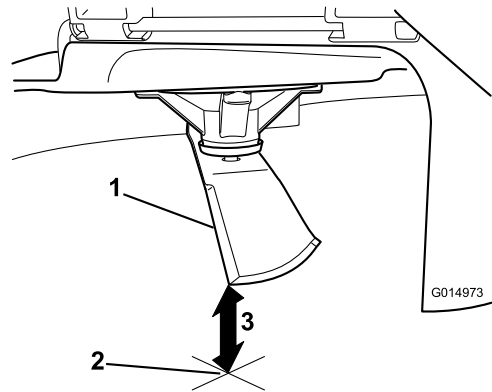

Figure 49
5. Measure from the tip of the front blade to the flat surface and the tip of the rear blade to the flat surface (Figure 49). If the front blade tip is not 1.6-7.9 mm (1/16-5/16 inch) lower than the rear blade tip, adjust the front locknut.